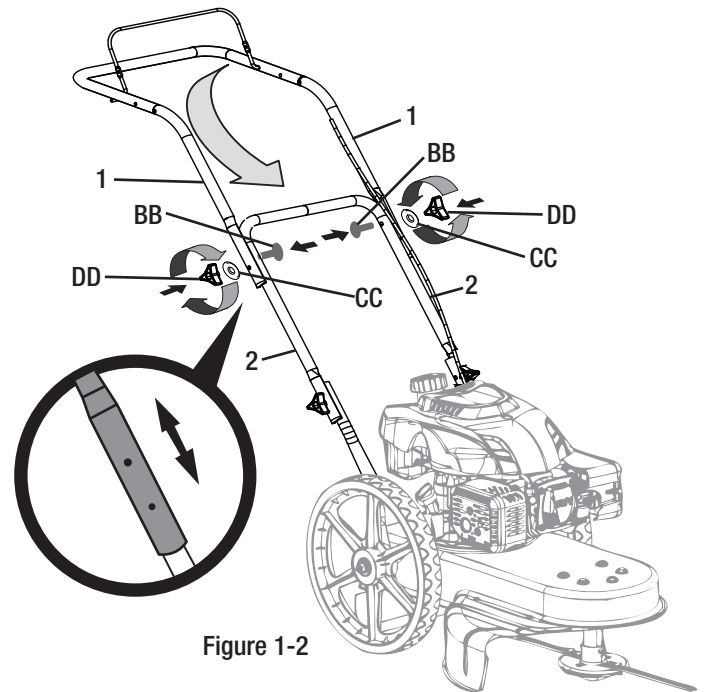

Figure 1-2
- Remove the star knob (DD) and carriage bolt (BB) from the left upper handle (1) and the right upper handle (1).
- Attach the upper handle (1) into one of two positions by pivoting and fastening the middle handle (2). See Figure 1-2.